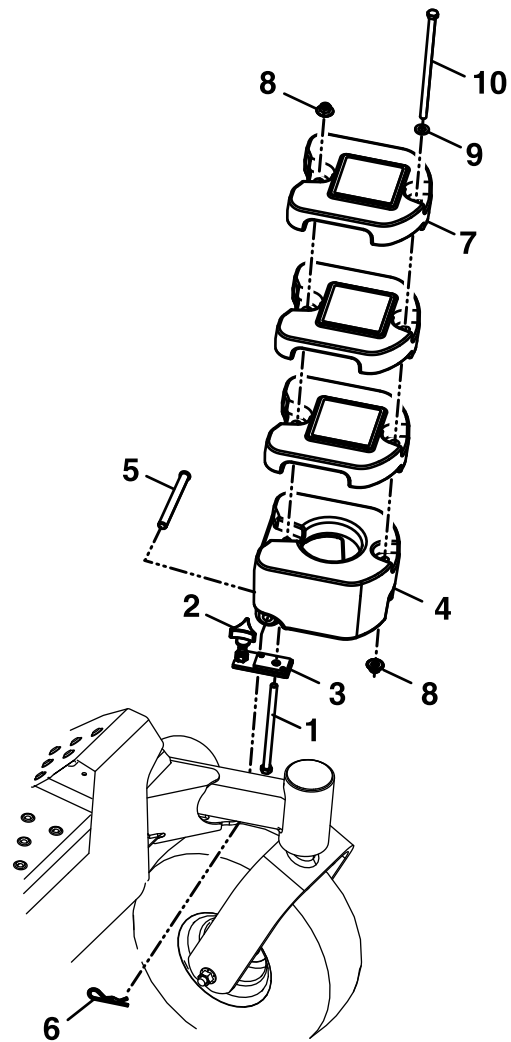

Figure 29
- A. Remove the locknut (3/8 inch) from the bottom of the 20.4 kg (45 lb) weight mounted to the caster arm (Figure 29).
- B. Remove the bolt (3/8 x 8 inches) and washer (Figure 29).
- C. Remove the locknut (3/8 inch) from the top 9.1 kg (20 lb) caster weight (Figure 29).